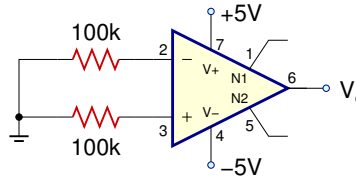

Figure 2: Offset Current Measurement Configuration
1. Build the circuit in Fig. 2 and measure the voltages across the two $100\text{k}\Omega$ resistors (after measuring one, switch the two resistors and make the second voltage measurement on the same resistor, but on the other terminal).